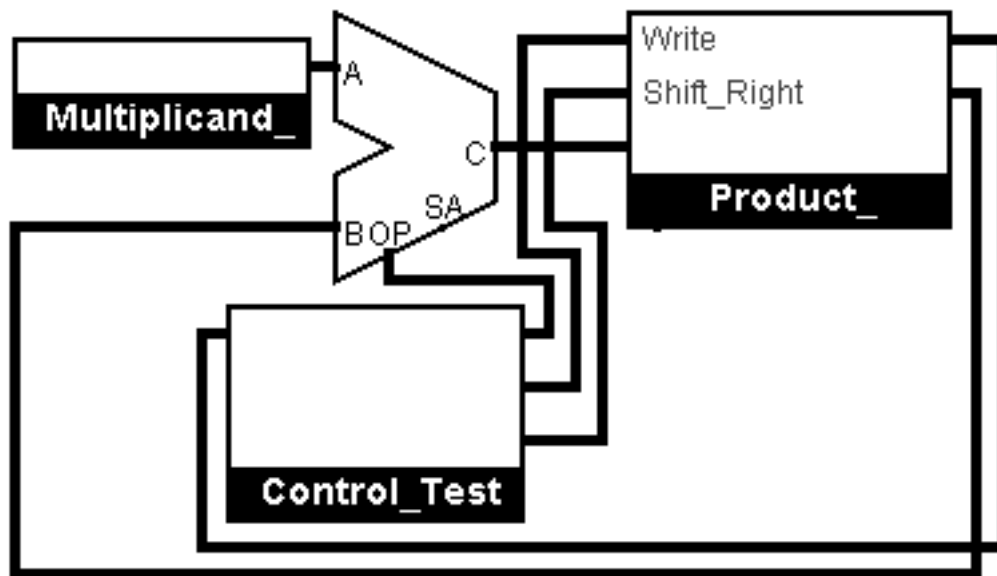

Figure 6: Multiplication Hardware with a 32-bit ALU
- yes, as seen in Figure 6, use a 32-bit ALU and fix the multiplicand at 32 bits, instead of shifting it to the left: